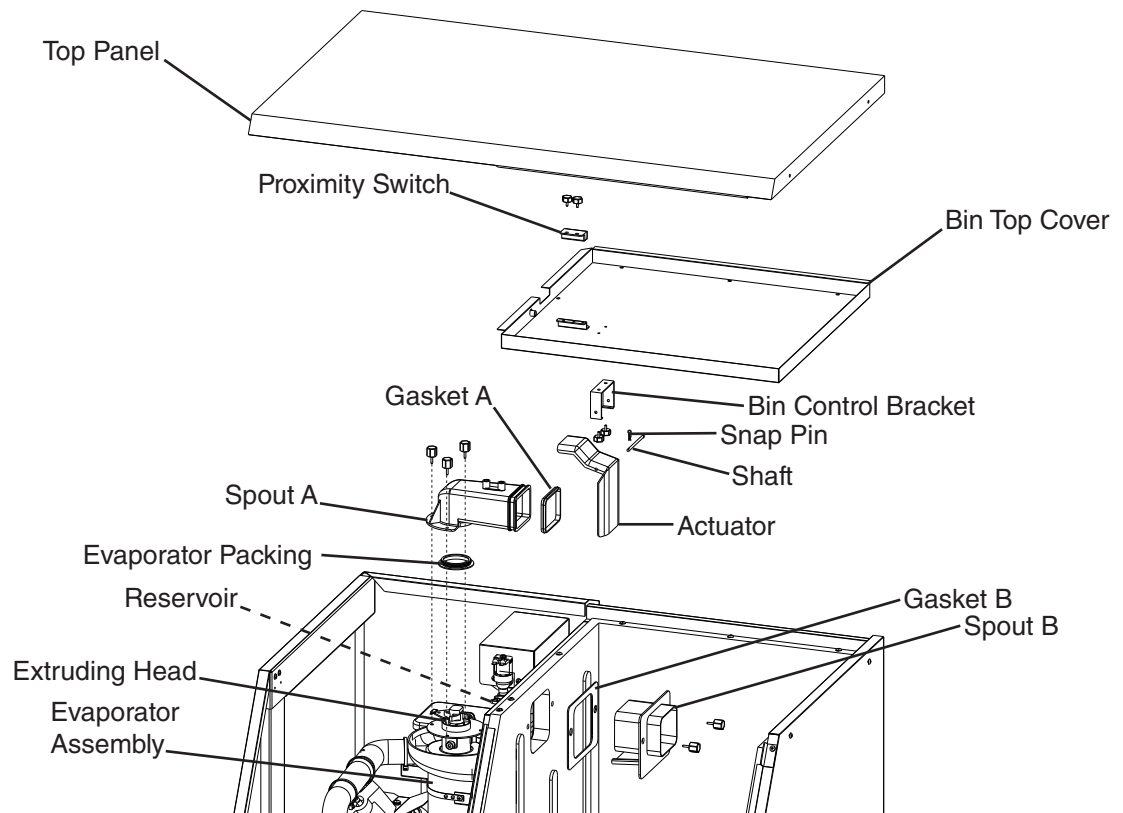

Fig. 5
- 3) Remove spout B and gasket B, then remove spout A, and gasket A. See Fig. 5.
- 4) Remove spout B and gasket B, then remove spout A, and gasket A. See Fig. 5.